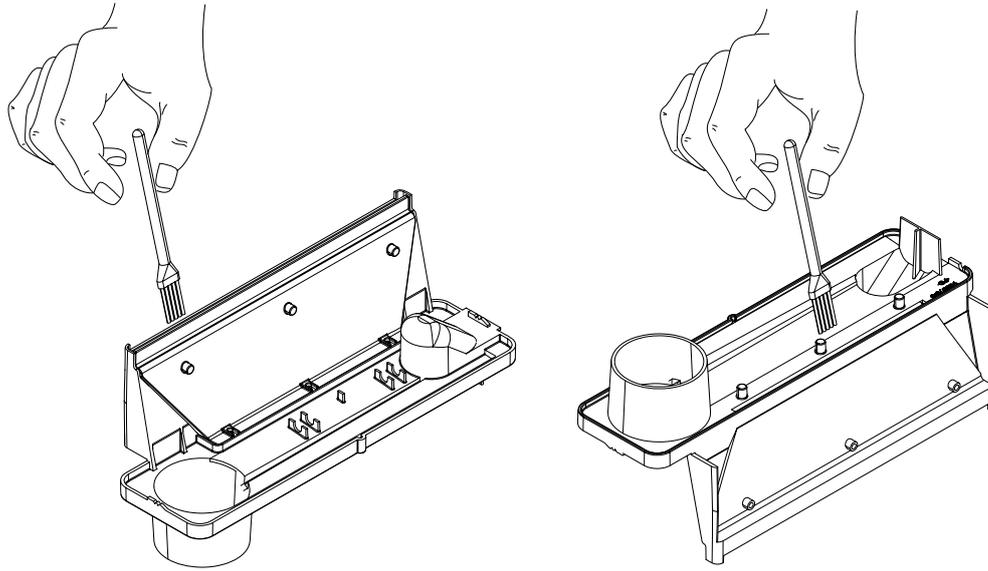

Fig.10
11. Clean the outlet surface of the sump lid with the brush and flush out thoroughly with water. (See Fig.10)